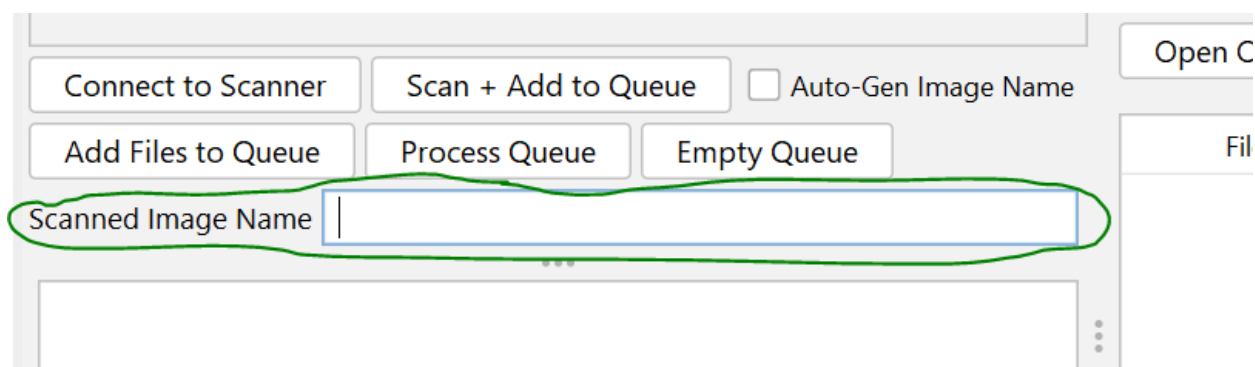

Figure 3
- 4) Provide a name for the scanned image in the box provided. [See Figure 3]